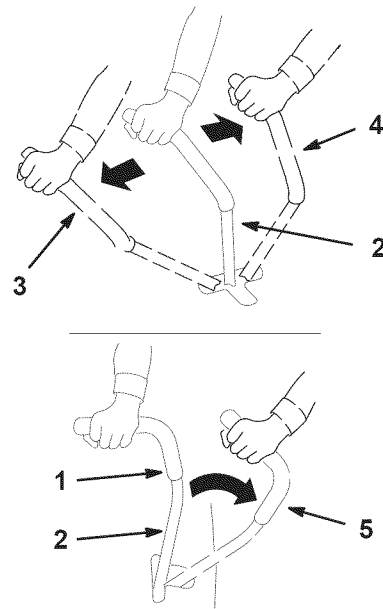

Figure 9
The parking brake is automatically set when the motion control levers are in the brake position (Fig. 9).
2. To go forward, slowly push the motion control levers forward (Fig. 9).
To go straight, apply equal pressure to both motion control levers (Fig. 9).
To turn, release pressure on the motion control lever toward the direction you want to turn (Fig. 9).
2. To go backward, slowly pull the motion control levers rearward (Fig. 9).
To turn, release the pressure on the motion control lever toward the direction you want to turn (Fig. 9).